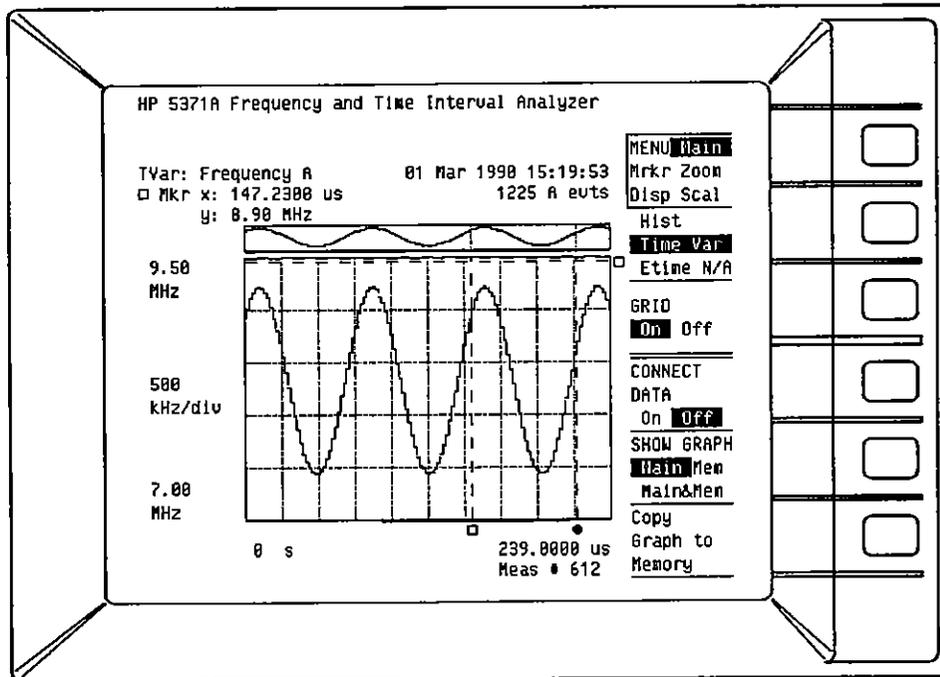

Figure 16-14. Time Variation Grid
- The graph is divided by four horizontal lines and nine vertical lines. The display shows a range of frequency, time, events, or degrees, per division along the y-axis. The type of units depends on the measurement function selected (see *Figure 16-14*).